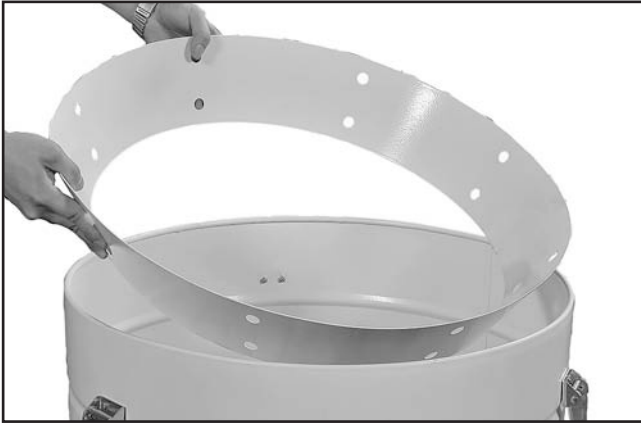

Figure 38. Inserting collection drum vacuum ring.
46. To prevent a vacuum leak in the collection drums, use (12) #10-24 x $\frac{3}{8}$ " Phillips head screws and (12) #10-24 hex nuts to plug the holes in the lower half of the collection drums.
47. Place the collection drum vacuum rings on the bottom of the collection drums (see **Figure 38**).